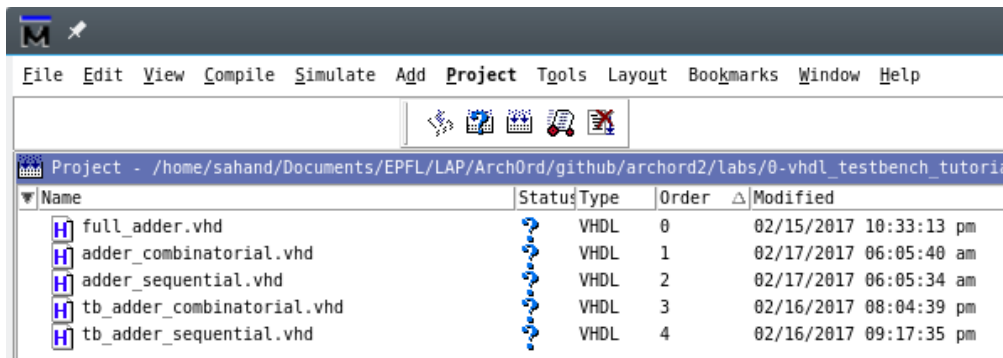
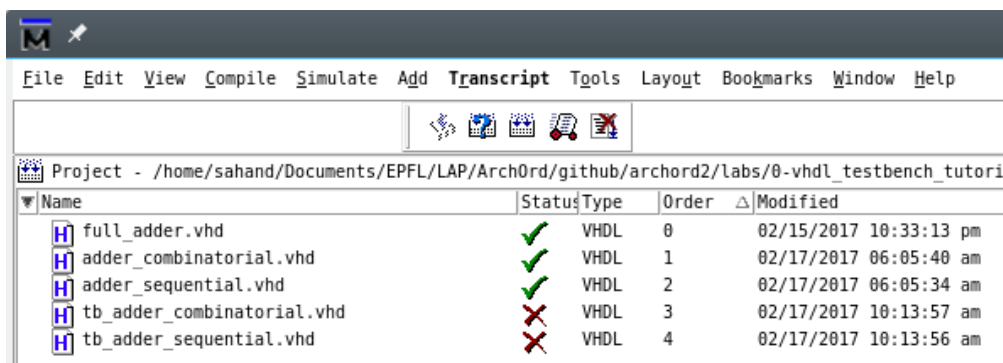

Figure 3: Files added to project
Figure 4: Compiling all files (empty testbenches)
3. Click on the `Add Existing File` button and add all files in the **vhdl** and **testbench** directories to the project (Figure 2b). You should obtain something similar to Figure 3.
4. Click on the  icon to compile all sources. The RTL files will compile successfully, but the testbenches will fail to compile (Figure 4). This is normal as the testbench files are empty, so ModelSim does not detect any entity to compile. If your output is not as in Figure 4, then it means you have added the various VHDL files in a different order from that shown in Figure 3 (“Order” column). You can solve this issue by clicking a few more times on the  icon until ModelSim correctly determines the right compile order of the VHDL files based on their dependencies.